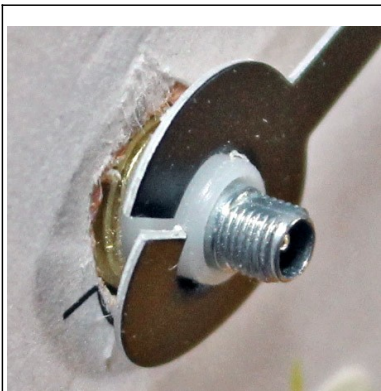
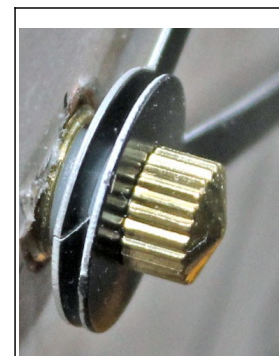

Fig. 6: Hour hand hub split wrong.
Fig. 8: Hub clearance.
- Work carefully. The hour hand's hub is split, and sometimes it bends upward at the split, as seen in Fig. 6. If this bent end is too high, the minute hand will drag on it.
- ☐ Check that the minute hand's hub is not dragging on the hour hand's hub at the split, as discussed **above**. Fig. 8 shows proper hub clearance. Notice also how close-together is the hour hand hub at the split. If it were like **Fig. 6**, the minute hand would drag on it.